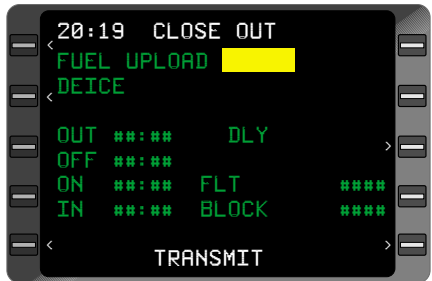

Figure 8-43
- Line Select Key - DEPRESS to position the cursor over **CLOSE OUT**. See Figure 8-43.
- ENTER** Key - DEPRESS. The **CLOSE OUT** Page is displayed. See Figure 8-43.